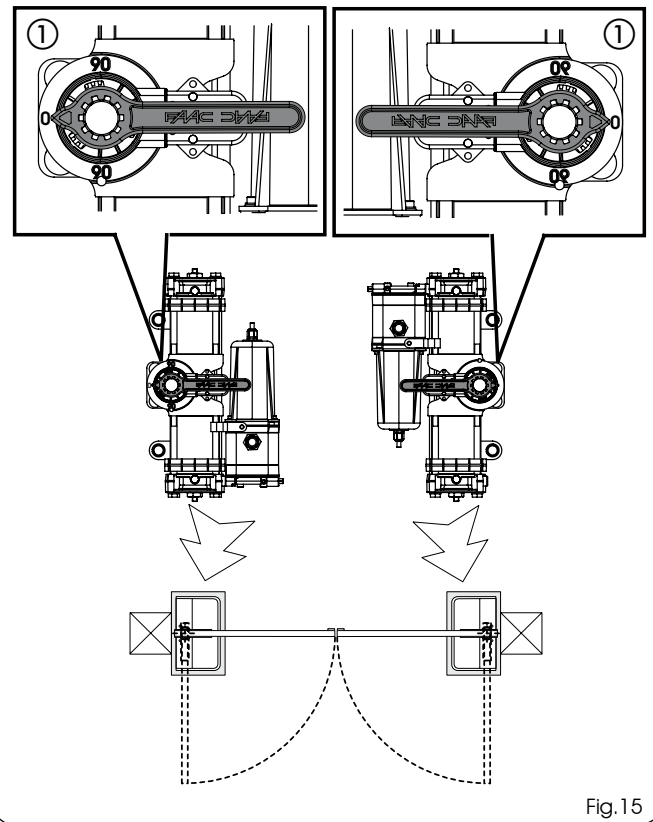

Fig.15
- 6) **Without moving the pinion**, insert the supplied key on the operator as shown in Fig.15, and make sure that it indicates 0 (ZERO) on the operator's plastic panel (Fig.15 ref.①). If necessary rotate the pinion. **(IMPORTANT FOR CORRECT COUPLING OF THE PINION-MECHANICAL RELEASE DURING INSTALLATION).**